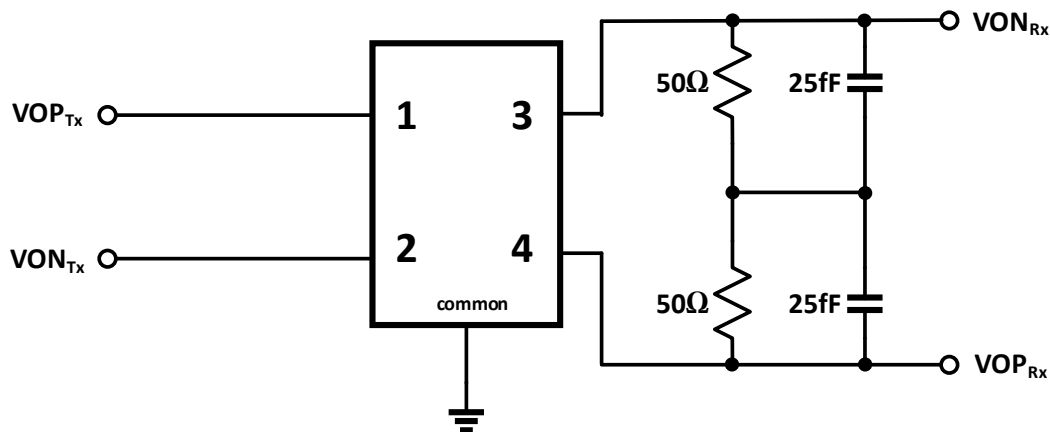

Figure 17. Channel termination diagram
19. Use ‘**nport**’ from ‘**analogLib**’ (detailed setup on next page, Figure 18) to simulate the inverter based transmitter with the four-port channel from the S-parameter file TYCO.s4p (<http://emlab.illinois.edu/ece546/tools/TYCO.s4p>). You need to add another inverter to generate a differential input of the channel. The channel needs to be terminated as shown in Figure 17. Plot the results of the differential input of the inverter based transmitter, differential input of the channel and differential output of the channel. Comment on the results.